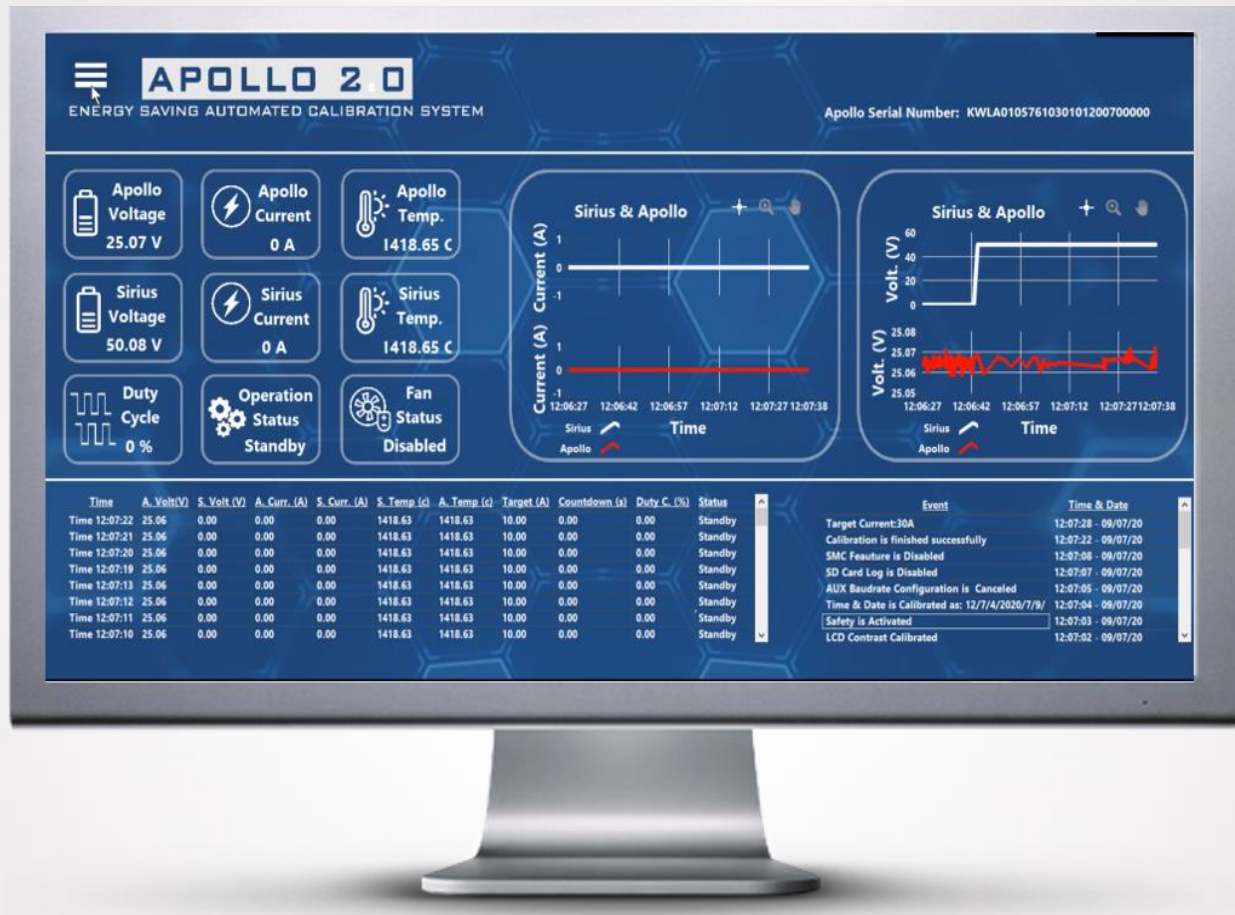

Figure 13. Apollo VIEW Main User Interface
- When the connection between PC and Apollo is established successfully, application proceed to Main User Interface as shown in Figure 13.